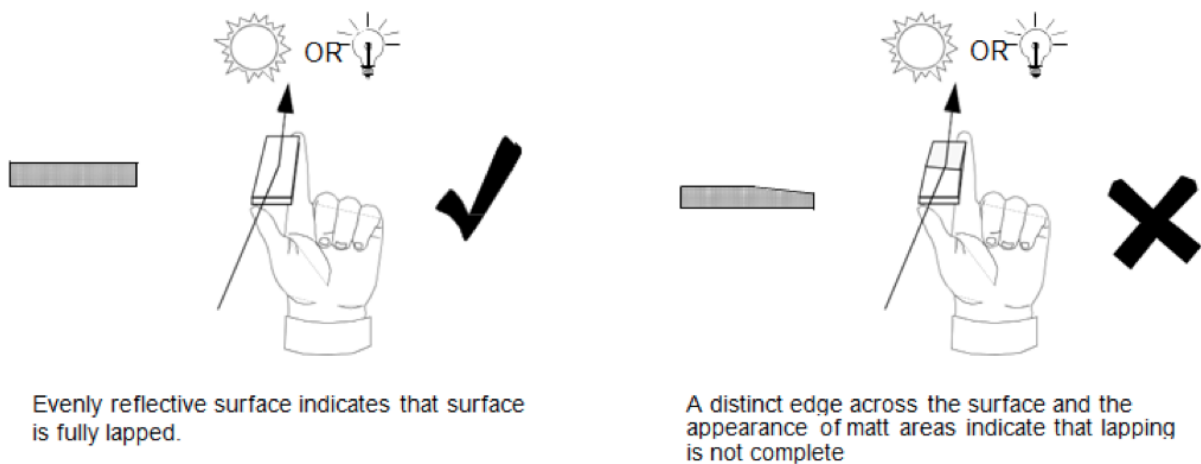

Figure 5 (Logitech Thin Rock Section Production Manual)
14. When finished the flat side of the sample should reflect light and feel smooth to touch (Fig. 5). If any parts look dull or feel rough it may need more time on the lap wheel.
3. When finished, the flat side of the billet should reflect light and feel smooth to touch (Fig. 5). If any parts look dull or feels rough, it may need more time sanding.